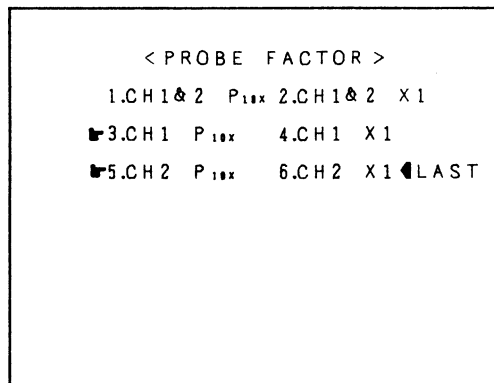

Fig. 8-2
- 2) Press the 1 key, and the display in Fig. 8-2 appears.
- 3) Press the key (1 - 6) corresponding to the attenuation of the probe to be used. The attenuation is set and the oscilloscope turns into the normal mode. The set value or default value is indicated by the index mark  as shown in Fig. 8-2.